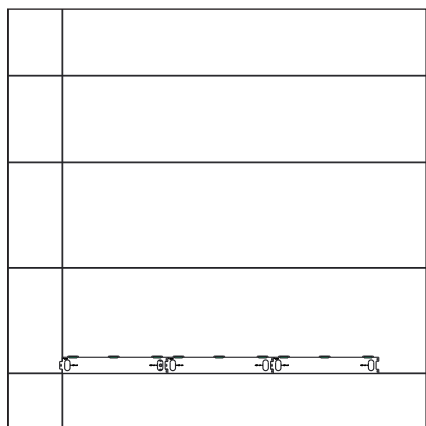

Figure 3: Use Jigs
- Remove the left jig and continue down the tube, using as many jigs as supplied/necessary. Refer to **Figure 3**.